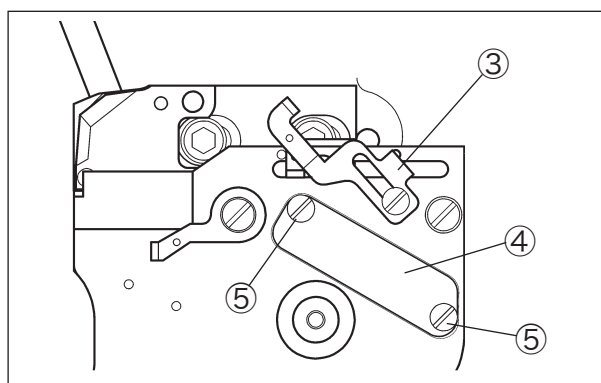
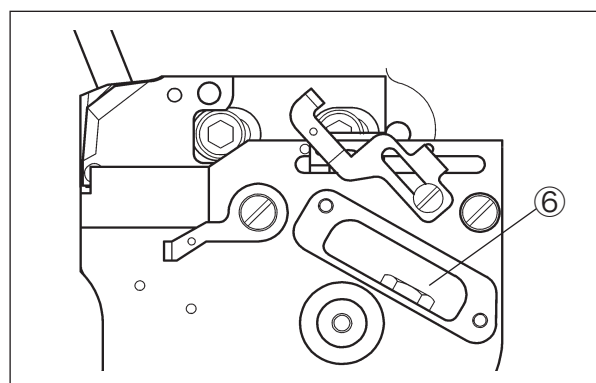

Fig. 6-29
Fig. 6-30
- (2) Make the looper thread eyelet ③ away from auxiliary looper holder cover ④. (Fig. 6-29)
- (3) Remove the screw ⑤.
- (4) Remove the cover ④.
- (5) Loosen the screw ⑥ to make adjustment. (Fig. 6-30)